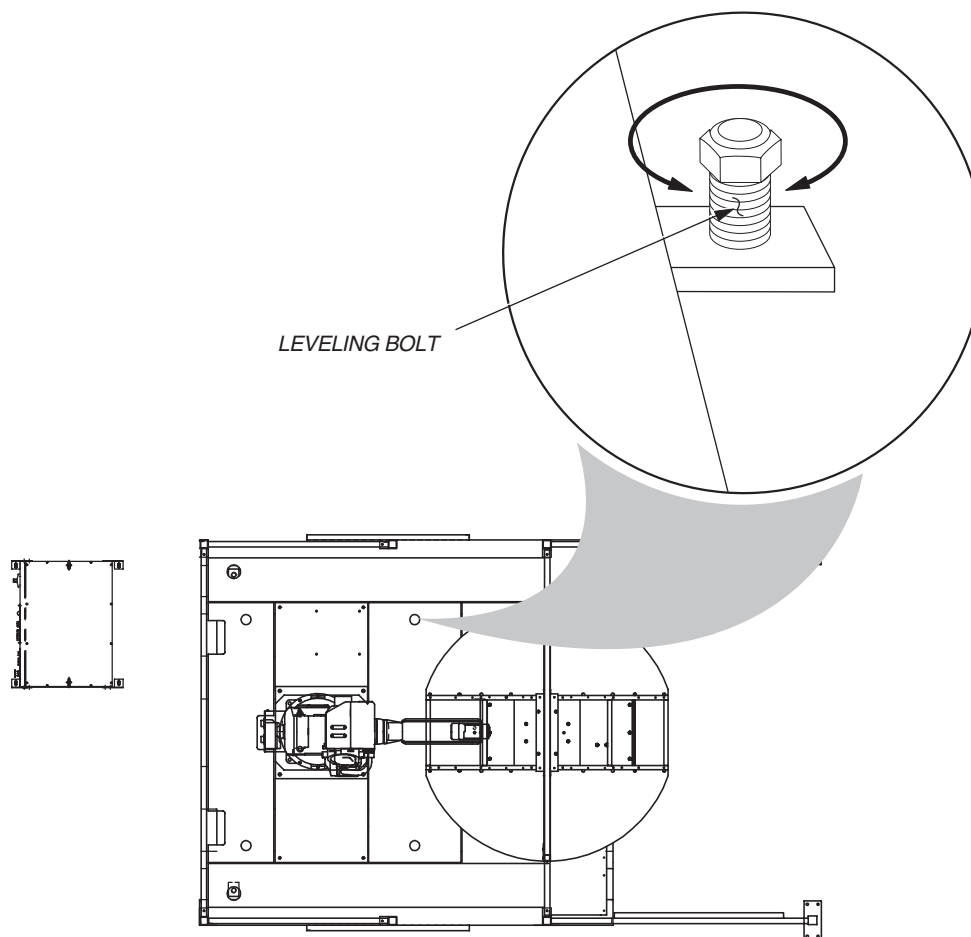

Figure 14 Leveling Bolts
1. Level robot/positioner common base by adjusting leveling bolts (see Figure 14).